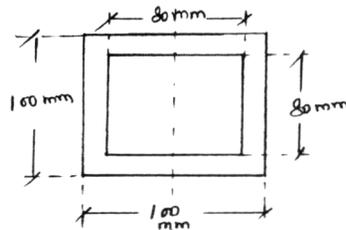

Fig.Q5(a) (06 Marks)
- 5 a. For the section shown in Fig.Q5(a), find the (i) Position of the neutral axis, (ii) Section modulus.
- b. A steel beam of hollow section of outer side 100 mm and inner side 80 mm is used on a span of 4 m. Find the uniformly distributed load the beam can carry if the bending stress is not to exceed  $120 \text{ N/mm}^2$ . The beam is taken as simply supported. [Refer Fig.Q5(a)] (06 Marks)